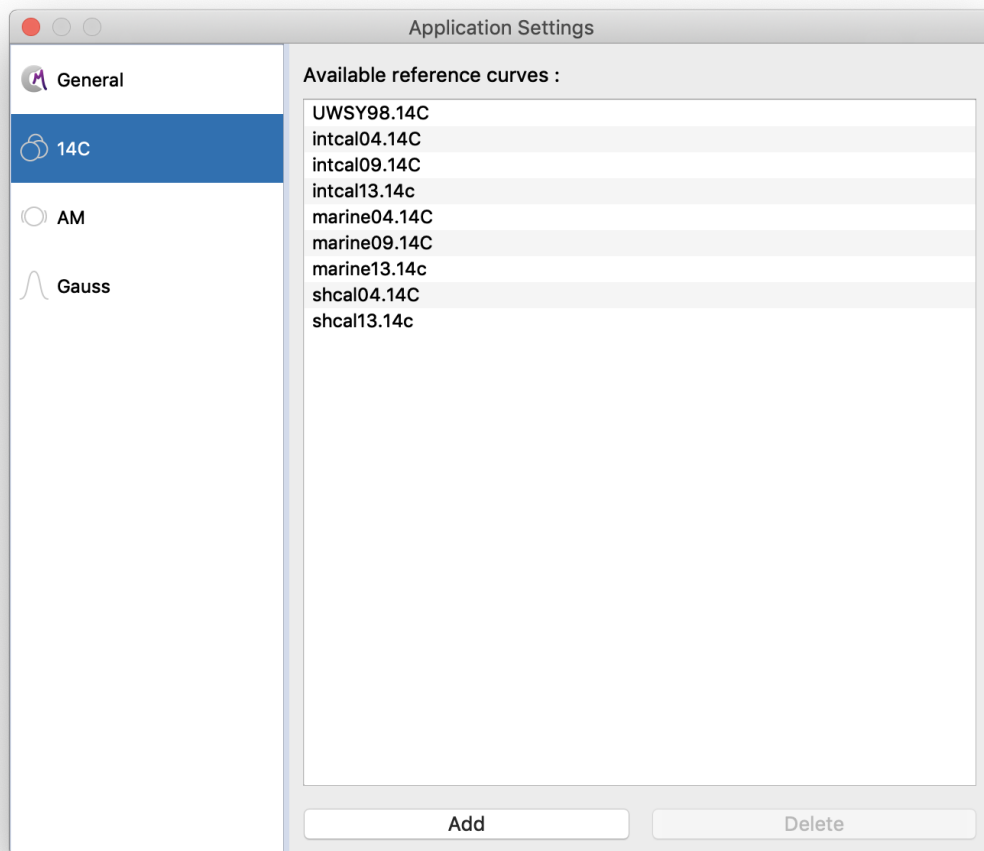

Figure 25 – Application Settings - Reference curves for 14C date
4.3.1.1 Reference curves In ChronoModel, several calibration curves are already implemented. These curves are listed in Table 1. When adding a radiocarbon date, you can select one of these reference curves using the drop-down menu. Other curves may be included in ChronoModel from the `Application Settings` . Figure 25 shows the window from which it is possible to add a new reference curve.
4.3.2.1 Reference curves Several reference curves are implemented in ChronoModel. They are listed in Table 2. Other curves can be included in ChronoModel from the `Application Settings` . See Figure 25 that shows the windows allowing to add a new reference curve.
Since ChronoModel version 1.5, a third option has been implemented. You can load a CSV file containing a different calibration curve. To do this, select the last option **Use custom curve file** and choose a file from the drop-down menu. If your file is not already included in ChronoModel, use the **Application Settings** window to add/delete another file. See Figure 25 that shows the window allowing to add a new reference curve for the radiocarbon date.